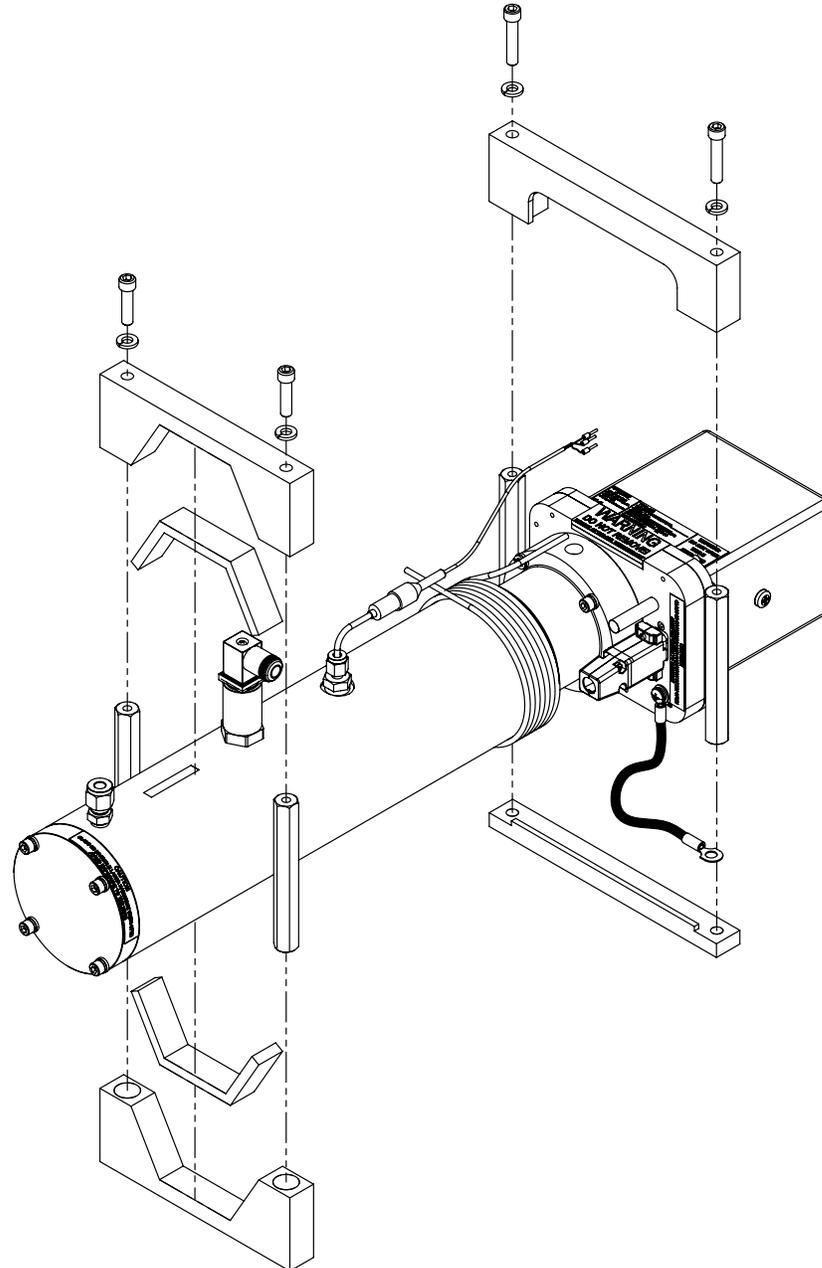

Figure 2-2 Mounting bracket assembly drawing for 28 m or 8 m measurement cell
3. Mount cell with bracket. Refer to Figure 2-2.